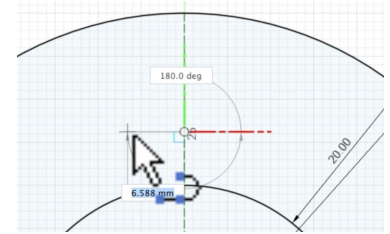

Figure 1.6
- First, click **'Line'** in the **'Create'** menu. Select your construction line, make sure it's perpendicular, and draw the two lines in (see Figure 1.6).